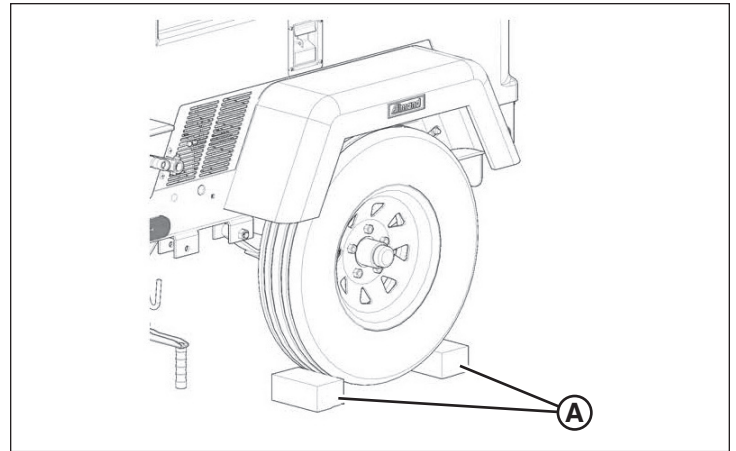

Figure 11
2. Block each wheel on each side with a suitable wheel chock (A, Figure 11).